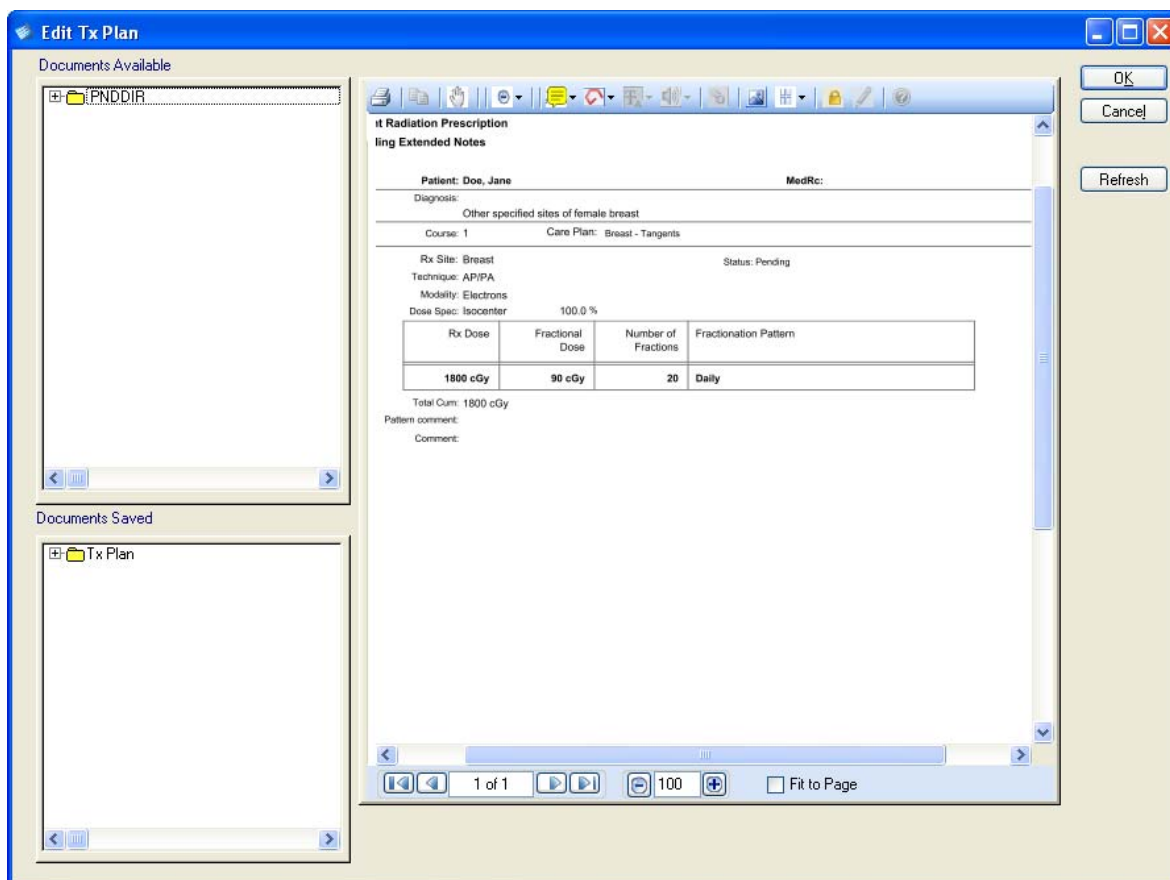

Figure 15: Edit Tx Plan Window
8. Click **Edit** to open the Edit Tx Plan window, shown in Figure 15.